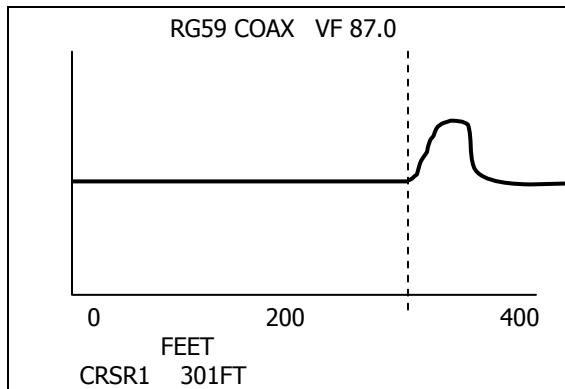
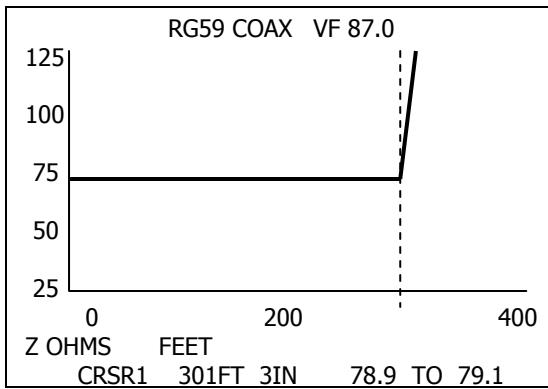

Figure 1
Figure 2
Figures 1 and 2 depict the electrically open end of a cable pair. Figure 1 depicts the end on a pulse TDR and Figure 2 depicts the same open end on a step TDR. It does not matter to the TDR or an AC signal transmitter that one of the conductors continues on in a cable. The pair's impedance (Z) has gone to infinity. On an AC signal transmission media, all remaining energy will be reflected back to the source when it reaches the point where either conductor is open.